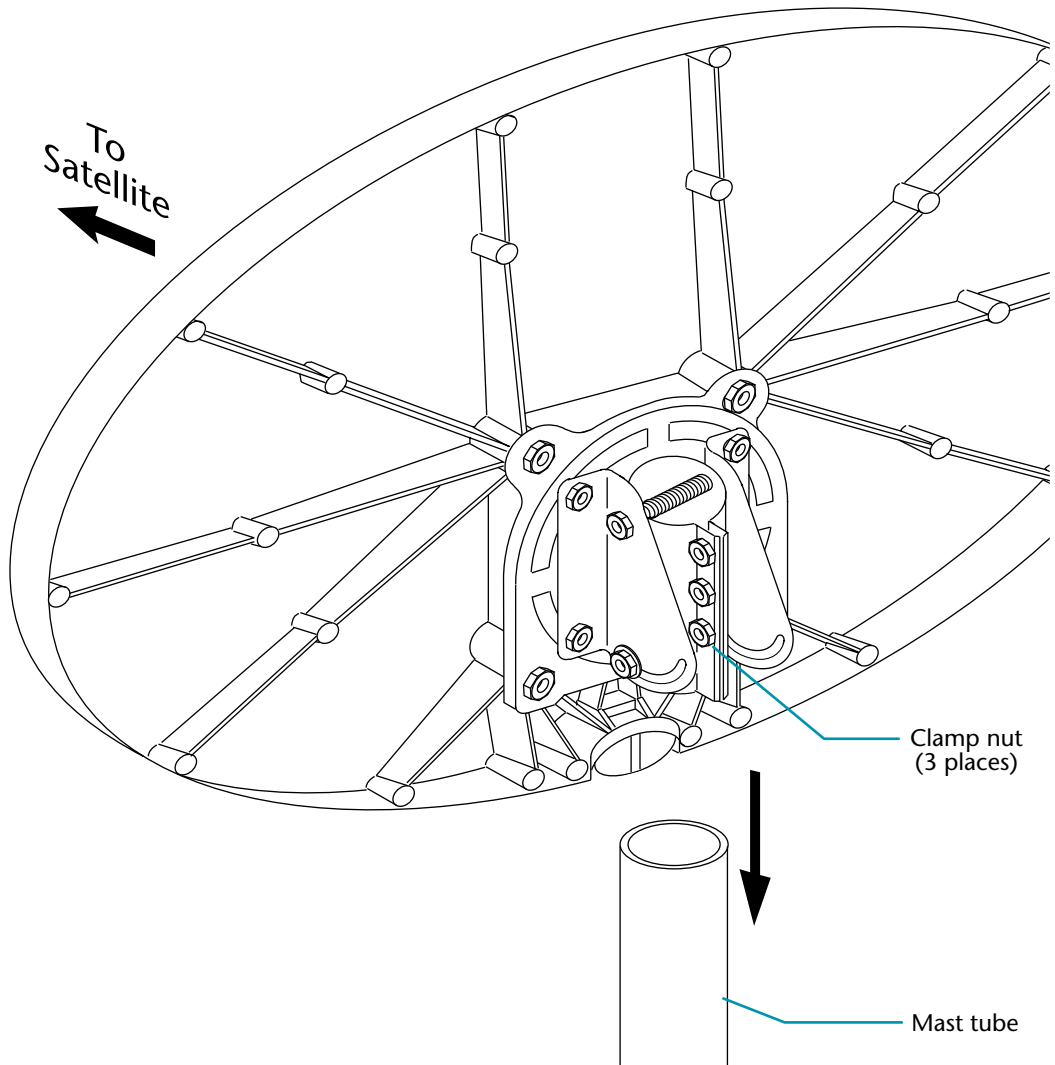

Figure 4-28. Installing antenna/cap mount assembly onto pole mount
1. Lift antenna/cap mount assembly and slide AZ/EL cap mount onto pole tube (see figure 4-28).